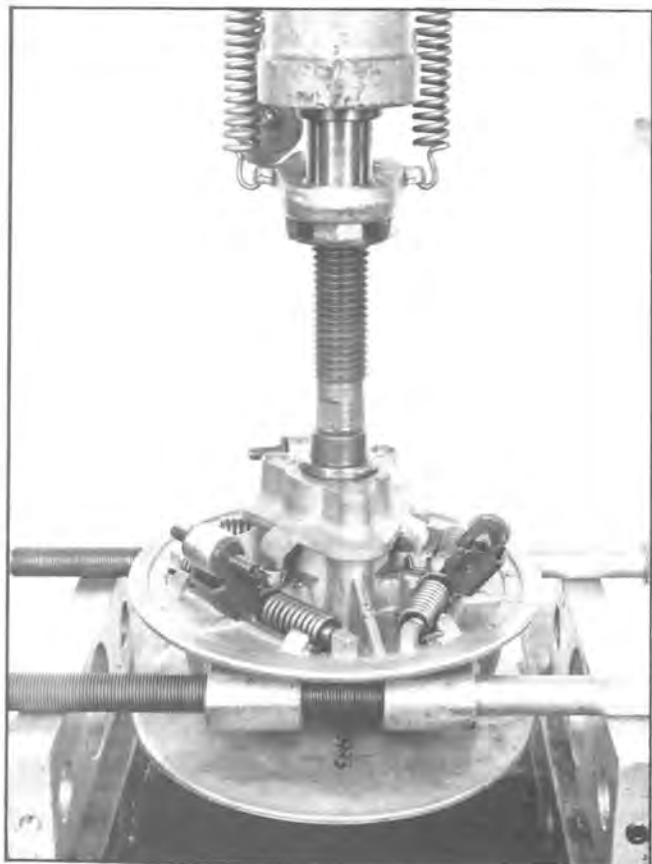

Fig. 62 — Pressing Inner Sheath From Face and Weight Assembly
- c. Disconnect weight springs to relieve their tension, place pulley assembly in a press. Use an arrangement similar to that pictured in Fig. 62 and press inner sheath from face and weight assembly. (Make sure there is enough room to allow clearance for the inner sheath.) Separate drive plate.